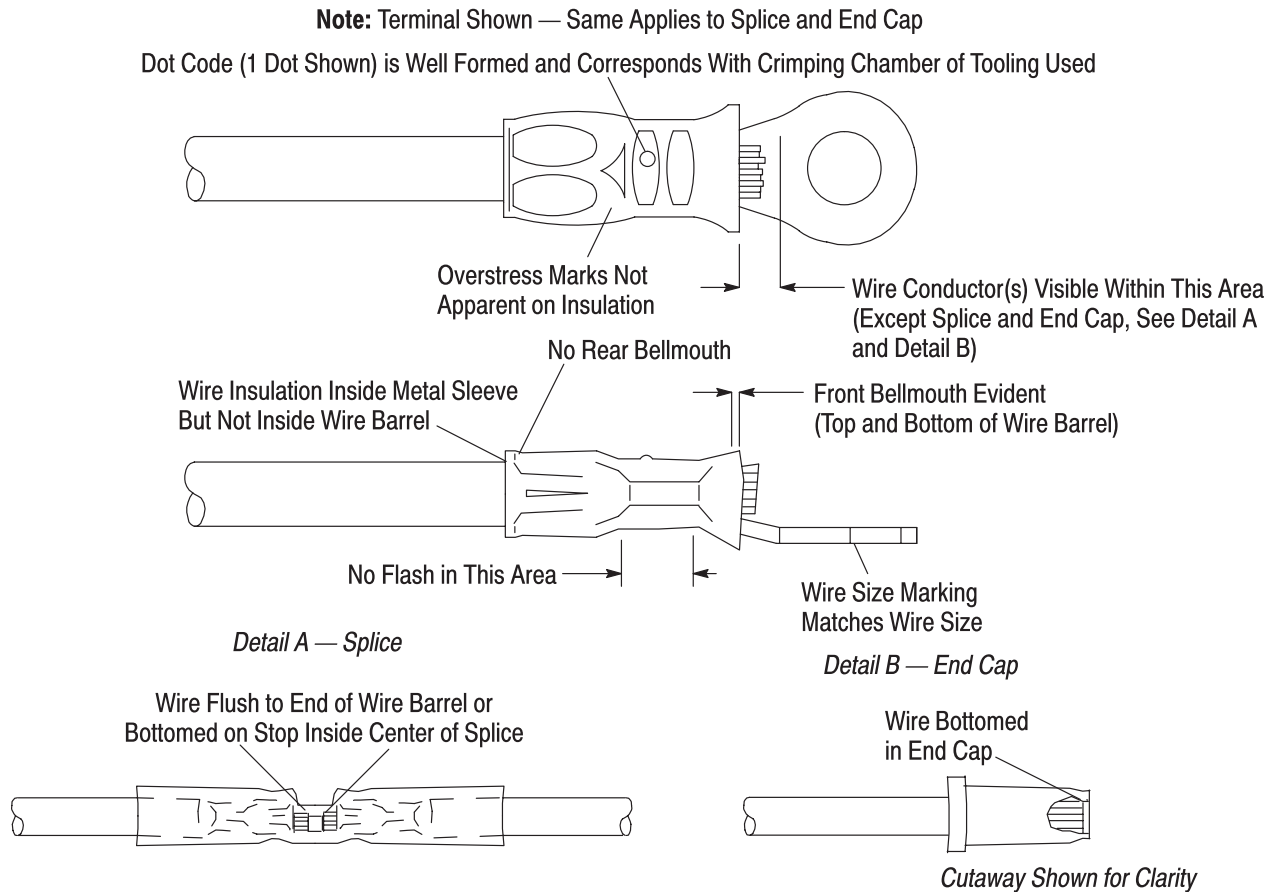

Figure 5
The insulation crimp must capture the wire insulation. The wire insulation must not be crimped inside the wire barrel of the terminal, splice, or end cap. The wire insulation must be inside the metal sleeve to provide strain relief for the wire. See Figure 5.
There shall be no rear bellmouth. The front bellmouth shall be evident on the top and bottom of the wire barrel as shown in Figure 5. Also see Figure 11.
There shall be no flash or extruded insulation material visible in the most compressed area of the wire crimp. See Figure 5.
The insulation of the terminal, splice, or end cap must not be cut or show uneven stress marks or highlighted marks on the insulation. See Figure 5.
1. Terminals shall have the wire ends flush or extended slightly beyond the end of the wire barrel as shown in Figure 5.